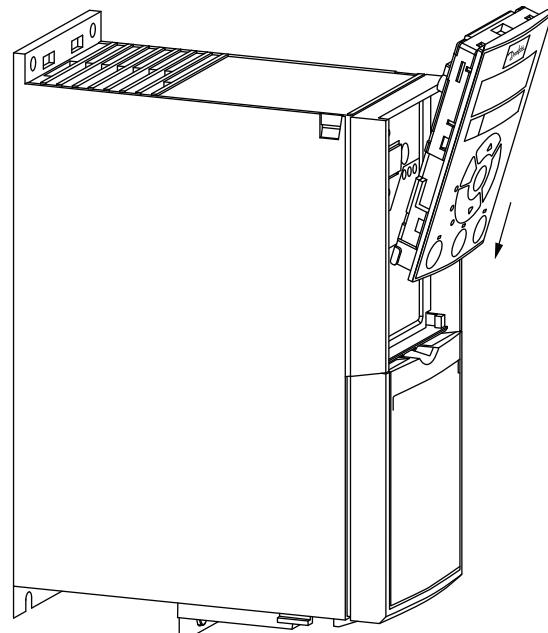

Fig. 58 — Align Bottom of VFD Keypad with Opening in VFD Front Panel
1. Place the bottom of the VFD keypad into the variable frequency drive as shown in Fig. 58.